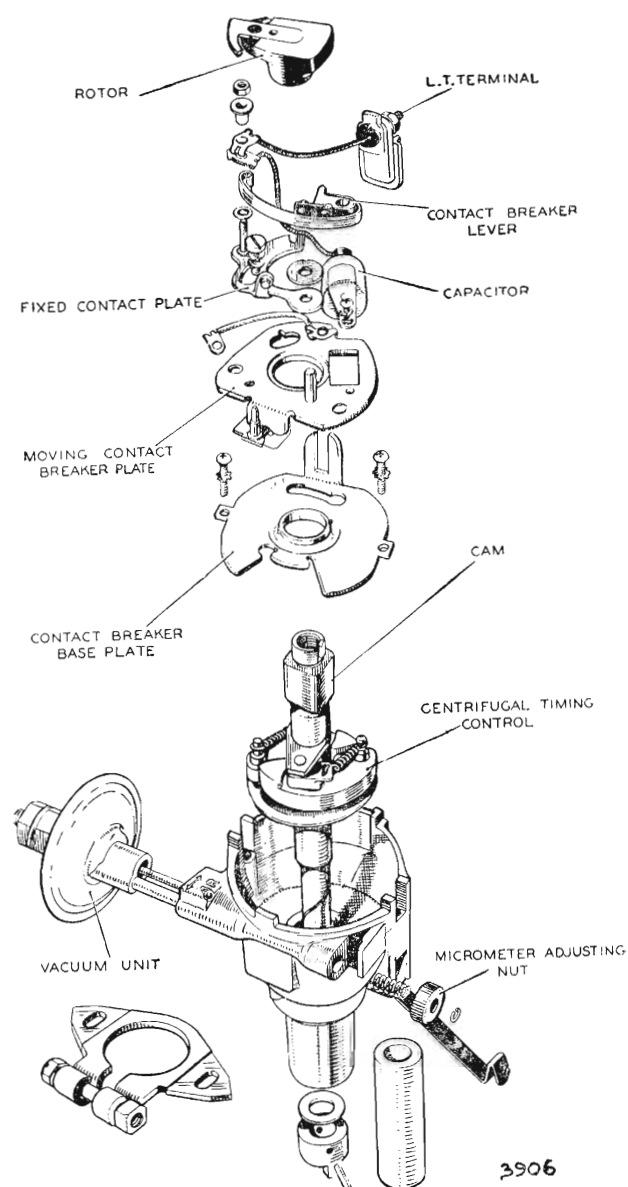

Fig. B.3. The component parts of the DM2 distributor.
**Important.**—Note the relative position of the rotor arm drive slot in the cam spindle and the offset drive dog at the driving end of the spindle, to ensure that the timing is not  $180^\circ$  out when the cam spindle is engaged with the centrifugal weights during assembly. (See Fig. B.3).
- (7) Take out the cam retaining screw and remove the cam spindle.
- (8) Take out the centrifugal weights. These may be lifted out as two assemblies, each complete with a spring and toggle.
- (9) To release the suction advance unit, remove the circlip, adjusting nut and spring. Withdraw the unit. Take care not to lose the adjusting nut lock spring clip.
- (10) To release the spindle from the body, drive out the parallel driving pin passing through the collar of the driving tongue member at the lower end of the spindle.
- (11) Clean the distributor cover and examine it for signs of cracks and evidence of 'Tracking', i.e. a conducting path may have formed between adjacent segments. This is indicated by a thin black line between the segments, when this has occurred the cover should be renewed.